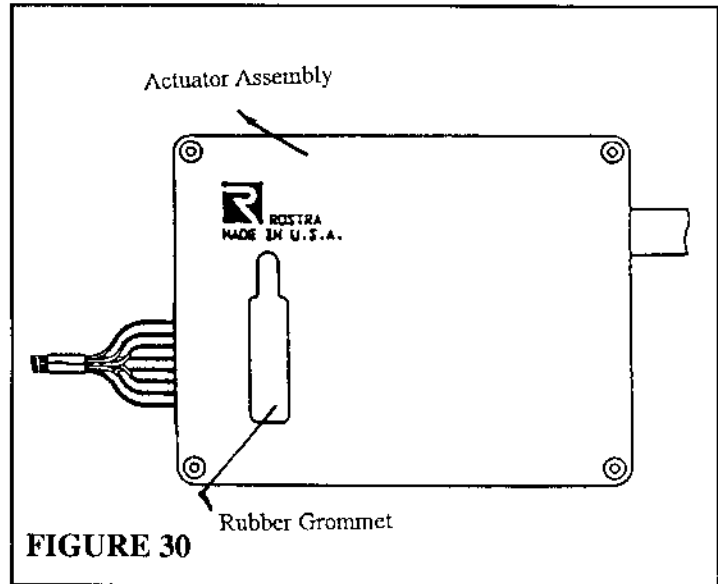

FIGURE 30
1. Push Rubber Cover Grommet securely into place on the cover of the **Actuator Assembly**. (**Figure 30**)